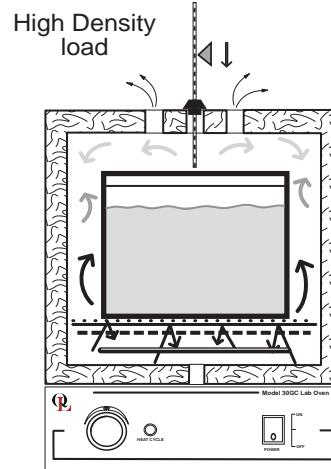

FIG. 6
- Avoid extremely large (in quantity or size), or high-density loads ( FIG. 6 ). This will show by non-uniform processing and long or impossible "heat-through" times. To help determine a large load's suitability, use the set-point recovery time (the time it takes for the temperature to recover to the original set temperature once load is placed), as a guide.